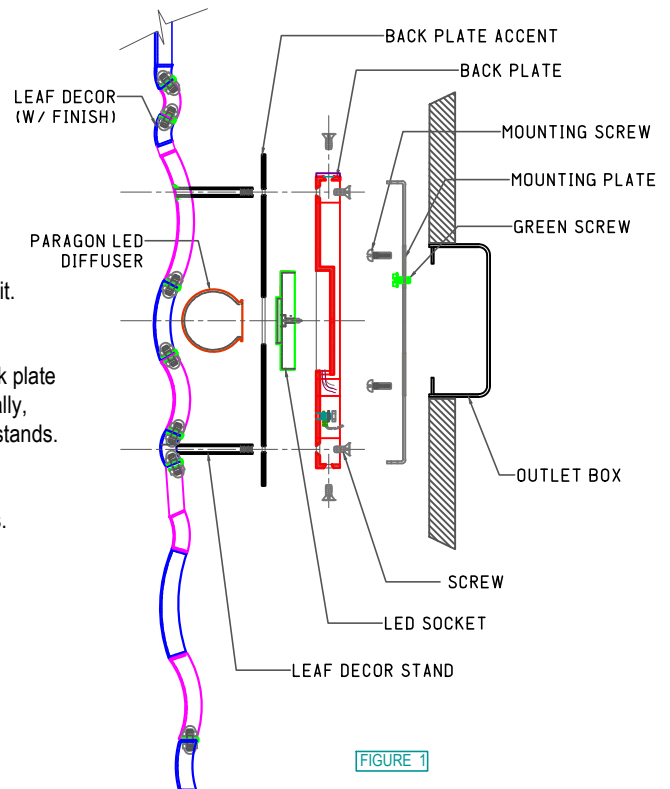

FIGURE 1
2. Assemble the fixture all together as one, attach the accent to the back plate together with led socket, Then the ball diffuser to the socket, and finally, the decorated leaf to back plate and lock it tightly with screws on its stands. (see figure 1)